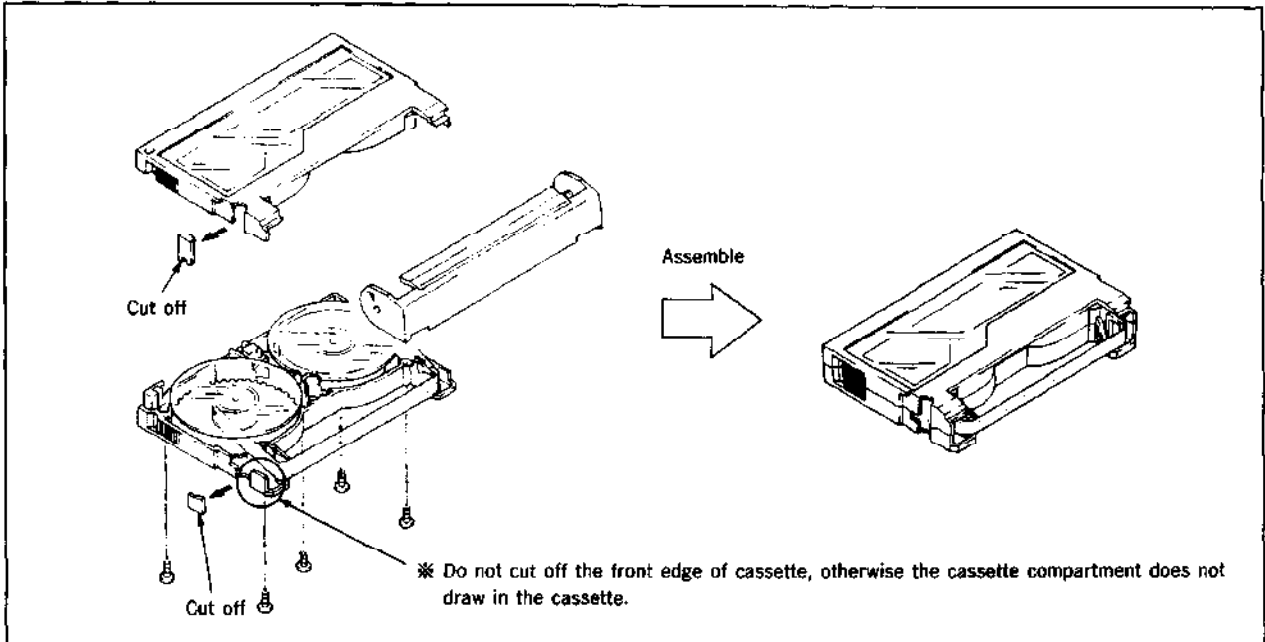

Fig. 35
**Note:** This adjustment requires the No. 7 guide adjusting cassette (Fig. 35).
- 2) Confirm that the tape is not bent between the No.6 guide (TG6) ① and the capstan ②. If it is, turn the height adjusting screw ④ of the No.7 guide (TG7) ③ until the tape is straightened.
- 3) Set the playback mode again and confirm that the tape is not bent between the capstan ② and the No.7 guide (TG7) ③ (specification : 0.5mm or less). If the tape is bent beyond the specification, turn the height adjusting screw ④ until bending is within the specification (0.5mm).